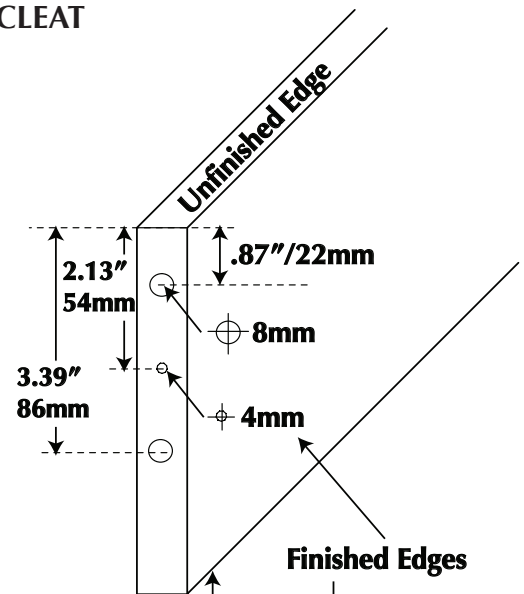

Fig. 1
- We recommend cutting one (or more) 30" cleat(s) to support and square one side of the corner tower section. Prior to assembly, cut a 30" shelf tower cleat to 29-3/8" wide and drill out dowel (8mm) and HiLow Screw (4 mm) holes. See Fig. 1.